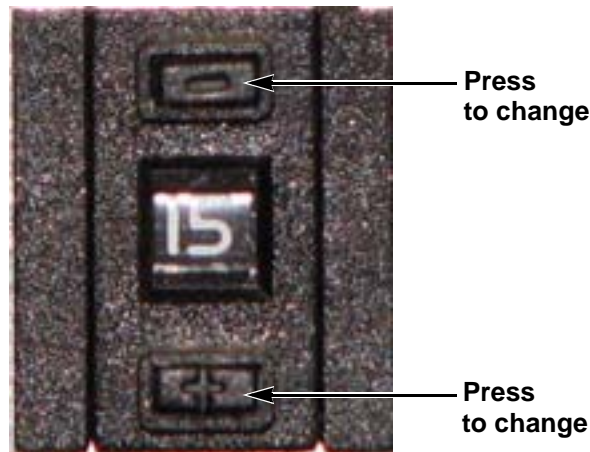

FIGURE 5-3. Mode Select Buttons.
3. Set the mode number at the Mode Select buttons, located at the rear of the MV 4105. See Figure 5-3. Use a pointed object (such as a pen tip) to press the desired Mode Select button.